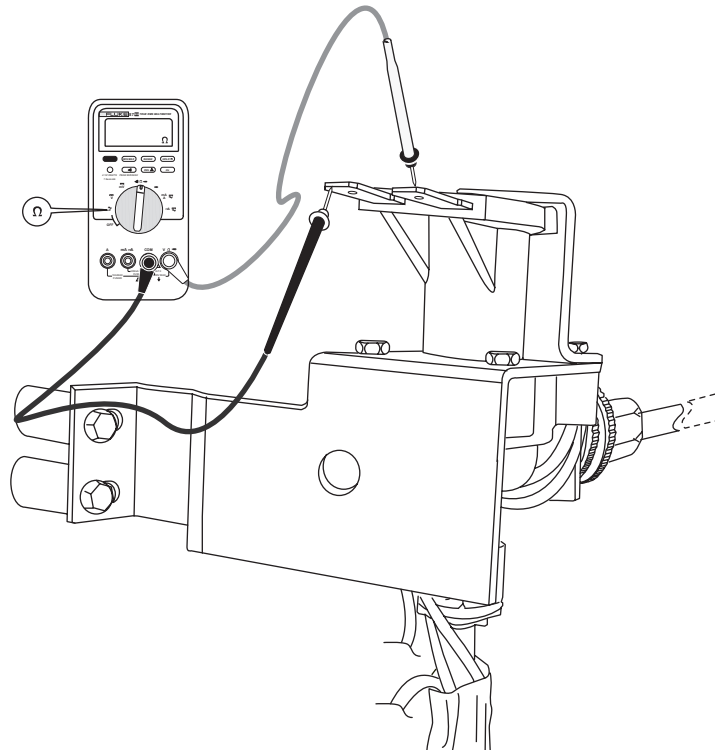
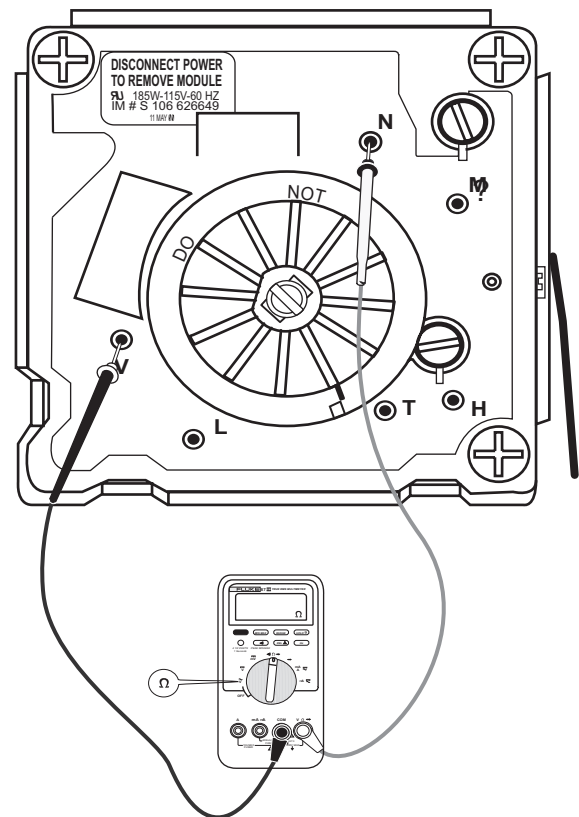

Figure 10-13. —Measuring solenoid coil resistance.
Figure 10-14. —Measuring solenoid coil resistance through wire harness
The solenoid coil resistance should measure between 295 and 360 ohms. It can be checked at the water valve solenoid coil as illustrated in Figure 10-13 or through the ice maker module test points V and N as illustrated in Figure 10-14.
5. Set the multimeter to ohmmeter function, then insert one probe into point L and the other into point H as Figure 10-14 illustrates.